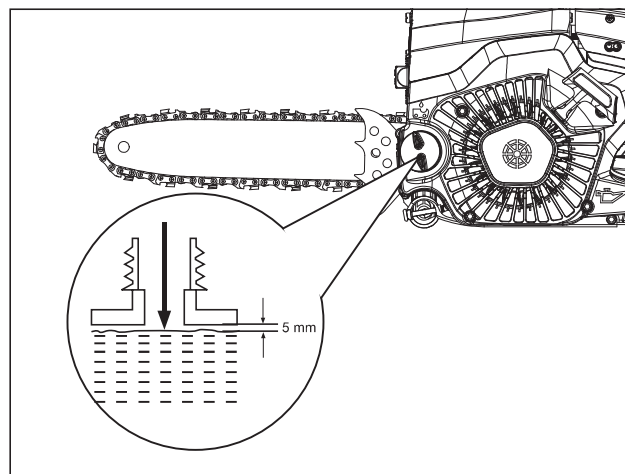

Fig. 4
3. Do not overfill and leave approx. 0.20in. (5 mm) space between the top of the oil and the inside edge of the tank to allow for expansion (Fig. 4).